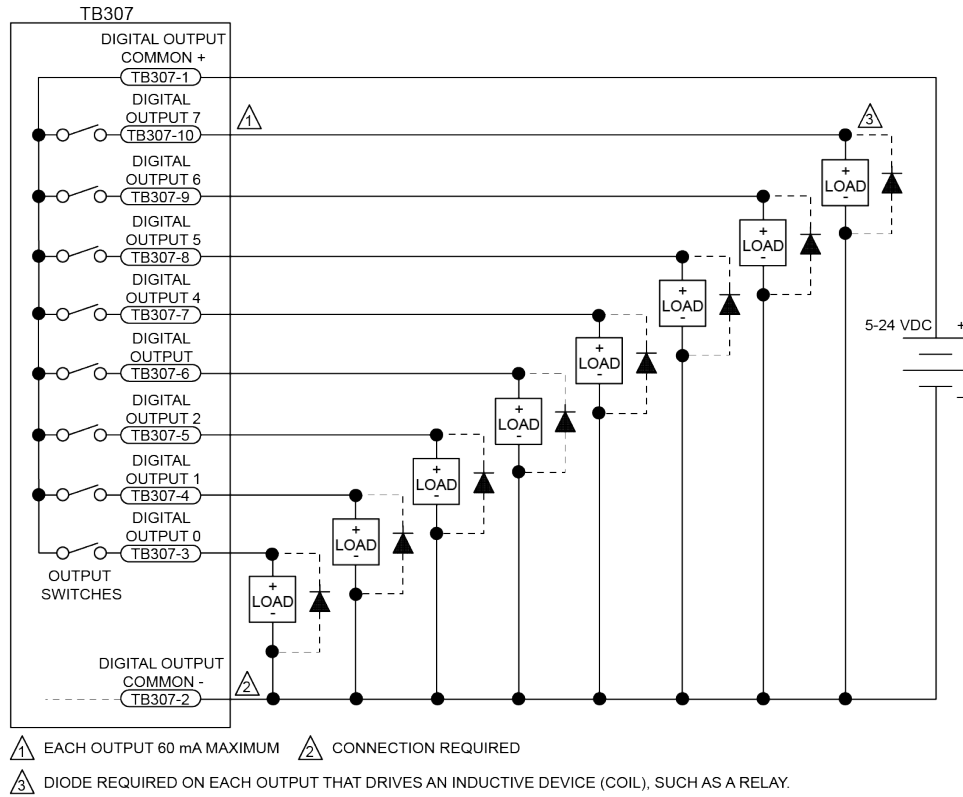
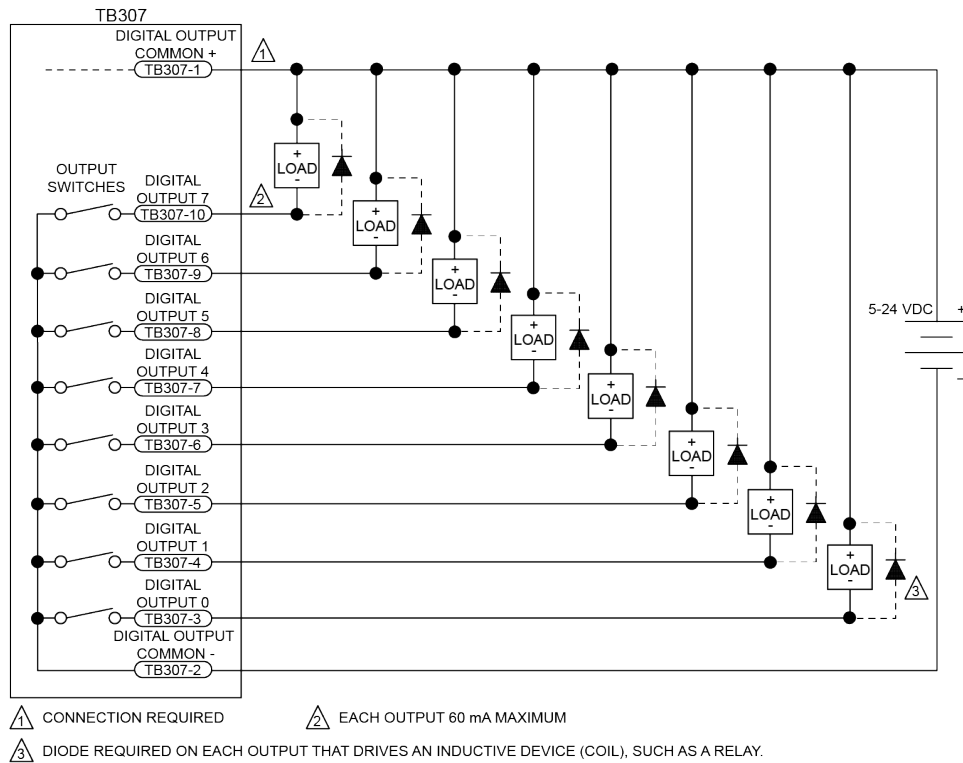

Figure 3-13: Digital Outputs Connected in Current Sourcing Mode
Figure 3-14: Digital Outputs Connected in Current Sinking Mode
The outputs are software-configurable and must be connected in either all sinking or all sourcing mode. Figure 3-13 and Figure 3-14 illustrate how to connect to an output in current sourcing and current sinking modes.
Suppression diodes must be installed on outputs driving relays or other inductive devices. This protects the outputs from damage caused by inductive spikes. Suppressor diodes, such as the 1N914, can be installed on all outputs to provide protection. It is important that the diode be installed correctly (normally reversed biased). Refer to Figure 3-14 for an example of a current sinking output with diode suppression and Figure 3-13 for an example of a current sourcing output with diode suppression.
NOTE: Power supply connections must always be made to both the Output Common Plus (OP) and Output Common Minus (OM) pins as shown in Figure 3-13 and Figure 3-14.